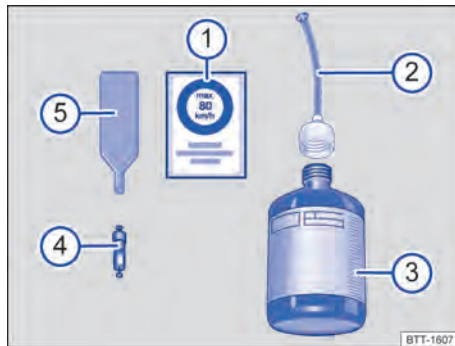

Fig. 233 Contents of the breakdown set (illustration).
- ① Sticker with the maximum permitted speed "max. 80 km/h" or "max. 50 mph".
- ② Filler hose with plug.
- ③ Tyre filler bottle.
- ④ Spare valve core.
- ⑤ Valve core extractor.
There is a slot for the valve core on the lower end of the valve core extractor → Fig. 233 ⑤. This is required for extracting and fitting the tyre valve core. This also applies to the spare valve core ④.
1. Take the sticker from the breakdown set → Fig. 233 ① and stick it on the dash panel within the driver's field of vision.
→ Fig. 233 ⑤ to unscrew the valve core from the tyre valve. Place the core on a clean surface.
4. Shake the tyre filler bottle → Fig. 233 ③ vigorously to and fro several times.
→ Fig. 233 ② tightly onto the tyre filler bottle in a clockwise direction. The plastic foil on the plug is pierced automatically.
→ Fig. 233 ② and place the open end fully on the tyre valve.
→ Fig. 233 ⑤ to screw the valve core back into the tyre valve.